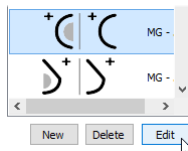

Figure 467 – Editing a selected hanging protocol
- Select the hanging protocol in the list of all protocols on the **Mammography workflow** tab of the **TomoCon options** dialog and click the **Edit** button (see Figure 467).